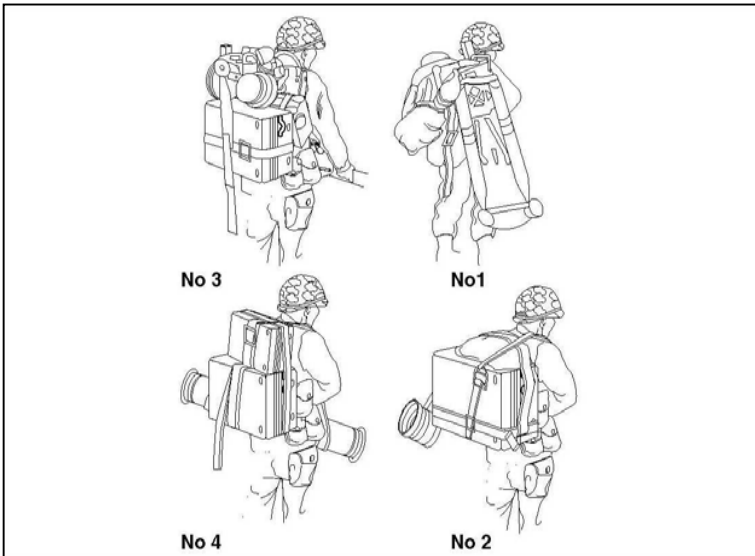

Figure 2-8-2: Rigging of TOW 2 Equipment for Long-distance Carrying
23. **Introduction.** A four-person detachment carries an average of 35 kg (75 lb) of bulky TOW 2 equipment per person and one missile. Depending on the distance required to be traversed and the type of operation to be conducted, additional soldiers will be required to carry missiles, rations and survival equipment. Generally a crew of eight soldiers would be required to move one TOW 2 system and missiles any distance beyond 500 metres (see Figure 2-8-2).